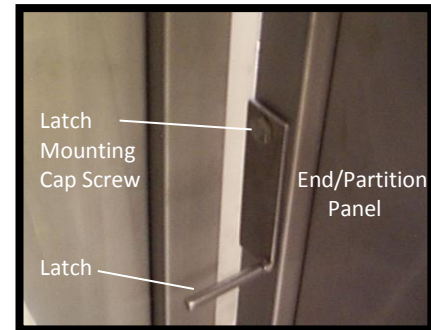

Figure 77: Resting Shelf Latch
1. With a 7/16 in. wrench, remove the latch mounting cap screw (Figure 77), and remove the latch.